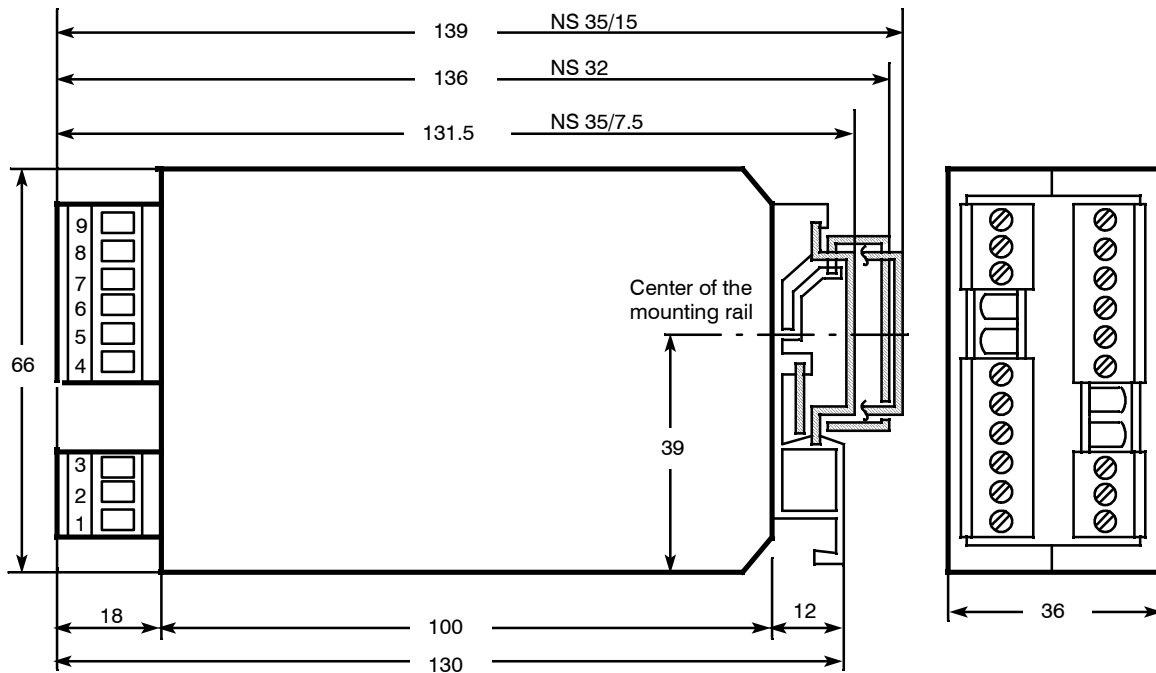

Figure 2-7 Dimensioned drawing coupling relay, dimensions in mm
- **Dimensioned drawing** see figure 2-7